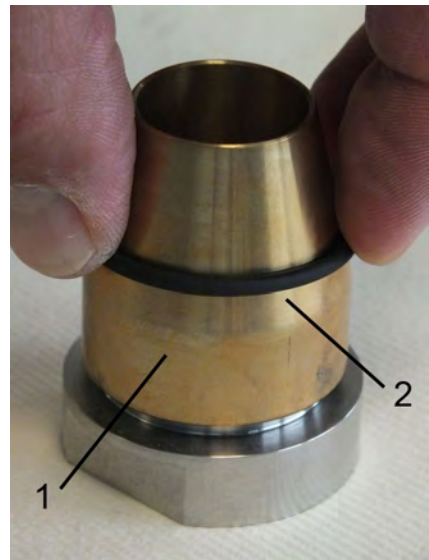

Fig. 41: O-ring (seal)
1. Carefully install the O-rings (Fig. 41/2) with the aid of the O-ring installation tool (Fig. 41/1) onto the process connections (inlet and outlet), so that they are properly seated in the O-ring grooves of the process connection (Fig. 41/1). When doing so, be careful not to overstretch the O-rings